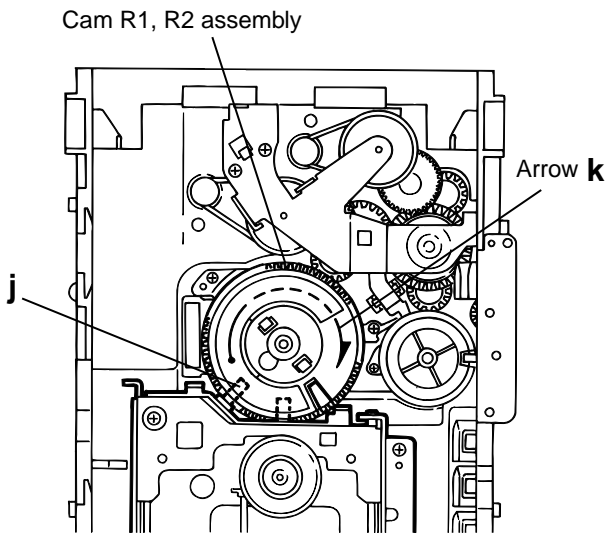

Fig.11
■ Removing the CD traverse mechanism (See Fig.11 and 12)
1. For dismantling only the CD traverse mechanism without removing the CD loading mechanism assembly, align the shaft "j" of the CD loading mechanism assembly to the position shown Fig.11 while turning the cam R1 and R2 assembly in the arrow direction "k".